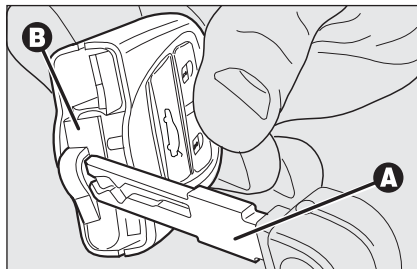

fig. 10
- remove the snap-fitted case **B-fig. 10** (red) by levering with the metal insert **A** of the electronic key in the point shown in the figure;